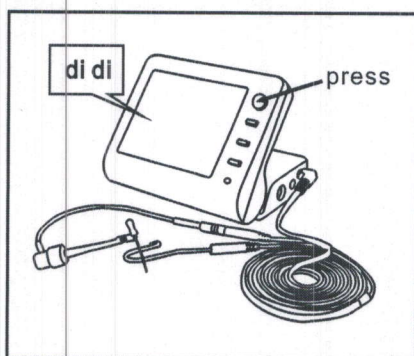

Fig.7
- 2) Connect the measurement wire and switch on the instrument, two tones audio signal are emitted when the unit is turned on.(Fig.7)